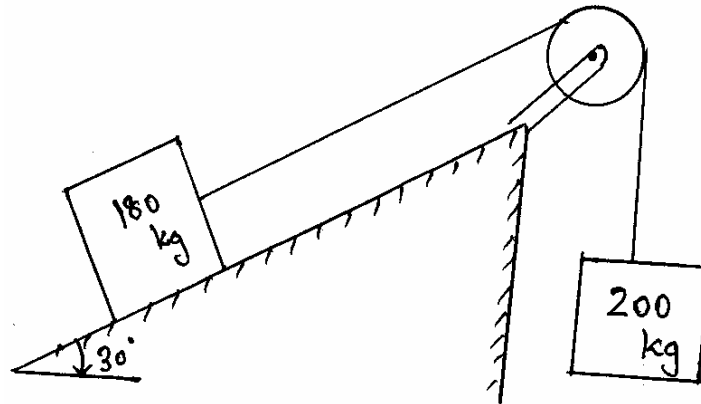

Fig. 6.
- (ii) A block and pulley system is shown in Fig. 6. The coefficient of kinetic friction between the block and the plane is 0.25. The pulley is frictionless. Find the acceleration of the blocks and the tension in the string when the system is just released. Also find the time required for 200 kg block to come down by 2 m.